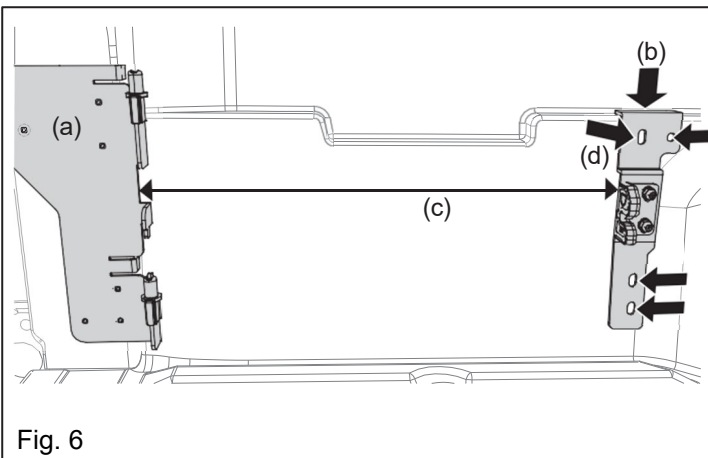

Fig. 6
5. Install the latch bracket, Fig. 6.